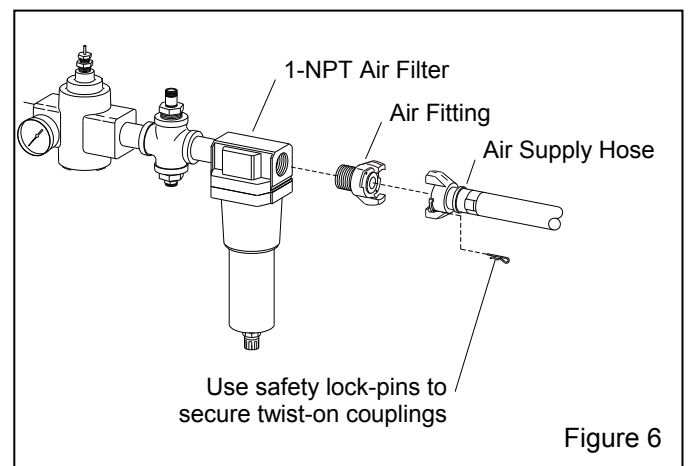

Figure 6
2.9.1 Apply thread sealant to the male threads of an air fitting that is compatible with the air supply hose fitting, as noted in Section 2.9.2, and install it onto the 1-NPT air filter located at the blast machine inlet, as shown in Figure 6. Note that the style of connection shown in Figure 6 is for reference only.